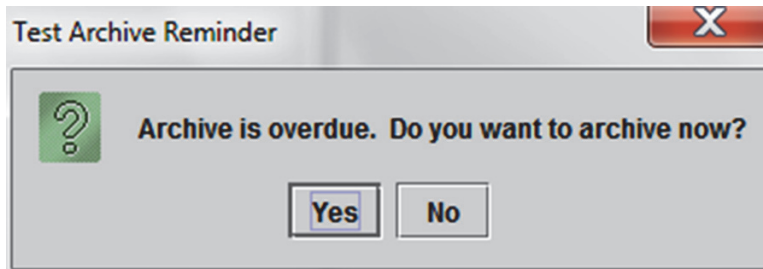
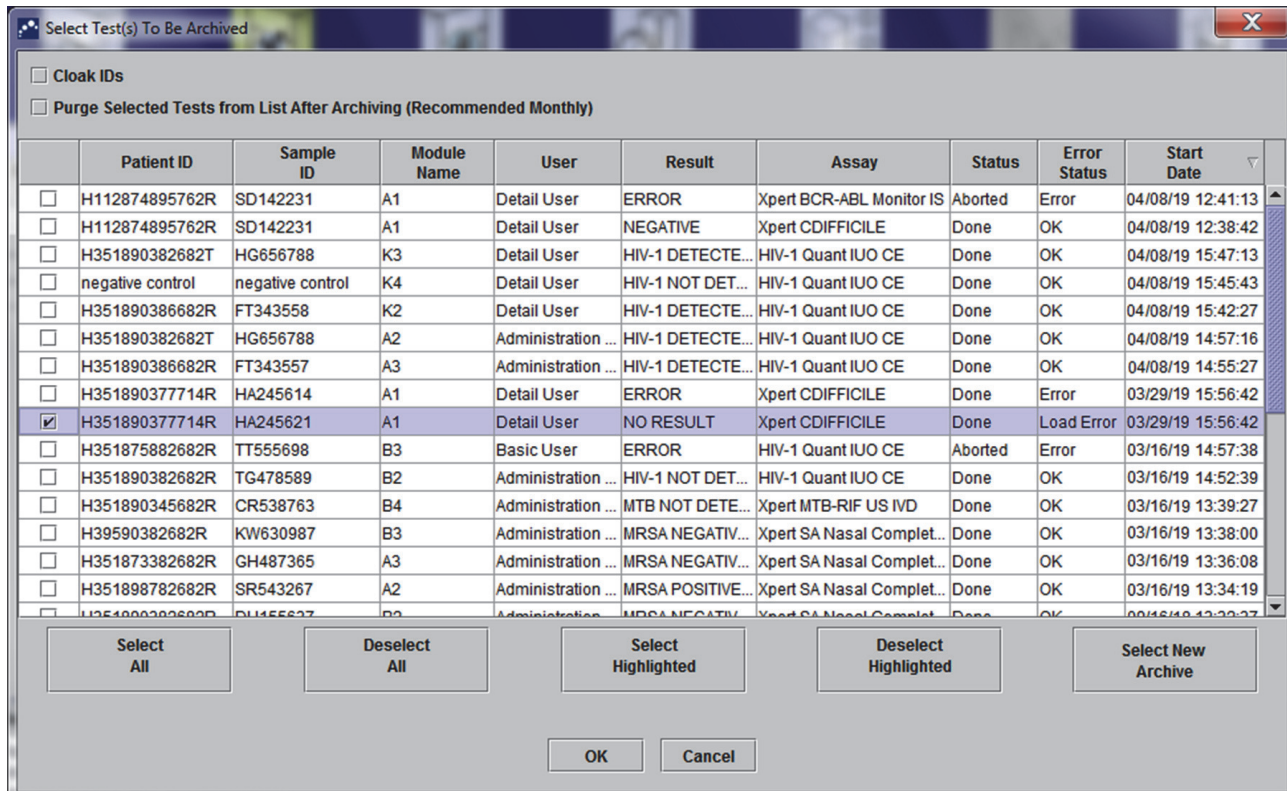

Figure 2-56. Test Archive Reminder Dialog Box
Figure 2-57. Select Test(s) To Be Archived Screen
If an archive is not overdue, or if an archive setting in Figure 2-41 is **not** selected, Figure 2-56 will not appear, and you can skip directly to Section 2.17.1.2.
If an archive is overdue, the Test Archive Reminder dialog box will appear (see Figure 2-56).
- If you do not want to archive, click **No** in the Test Archive Reminder dialog box (see Figure 2-56). Continue the shutdown sequence without archiving, in Section 2.17.1.2.
- If you would like to archive, click **Yes** in the Test Archive Reminder dialog box (see Figure 2-56) to continue the shutdown sequence with archiving. The Select Test(s) To Be Archived screen appears. See Figure 2-57.